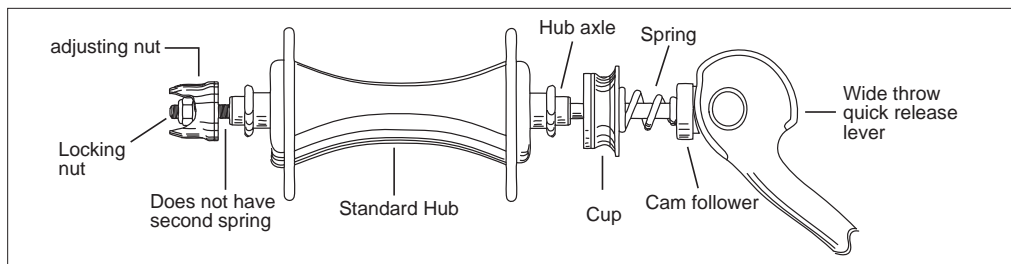

Fig. 15: The CLIX® Wheel Release System
4. Now that the correct tension has been set with the CLIX quick release lever in closed position, tighten the locking nut with 8mm socket wrench until it is next to, but not tight against, the adjusting nut (Fig. 15).